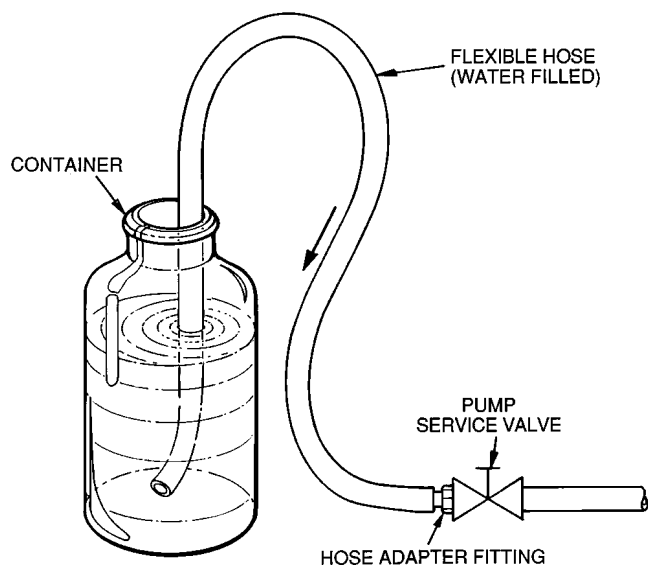

Fig. 29 — Adding or Removing Fluid
1. Fill a length of flexible tubing with water and connect one end to the hose adapter. Place the free end in a container of water. Be sure end is submerged (Fig. 29).
2. Fill a length of flexible tubing with water and connect one end to the solution pump service valve (see Fig. 29). Insert the other end in a container of octyl alcohol. Stop the solution pump. The pump can be stopped without a dilution cycle by pressing the trip bar on the pump starter overload, then pressing the Stop button and the overload reset. Then open the service valve to allow alcohol to be drawn into the machine. *Close valve before air can be drawn into the hose.* Restart the chiller and solution pump.